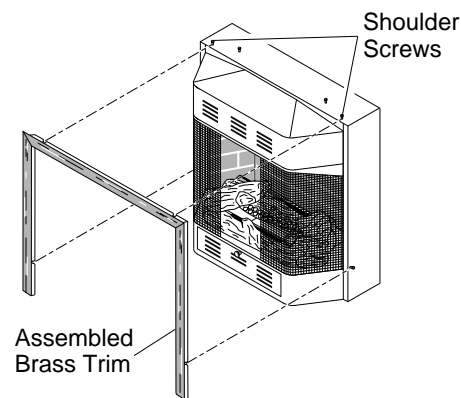

Figure 14- Attaching Brass Trim to Fireplace
4. Place brass trim on the shoulder screws located on the side and top of the fireplace. Firmly snap the brass trim over the shoulder screws on fireplace (see Figure 14, page 10).